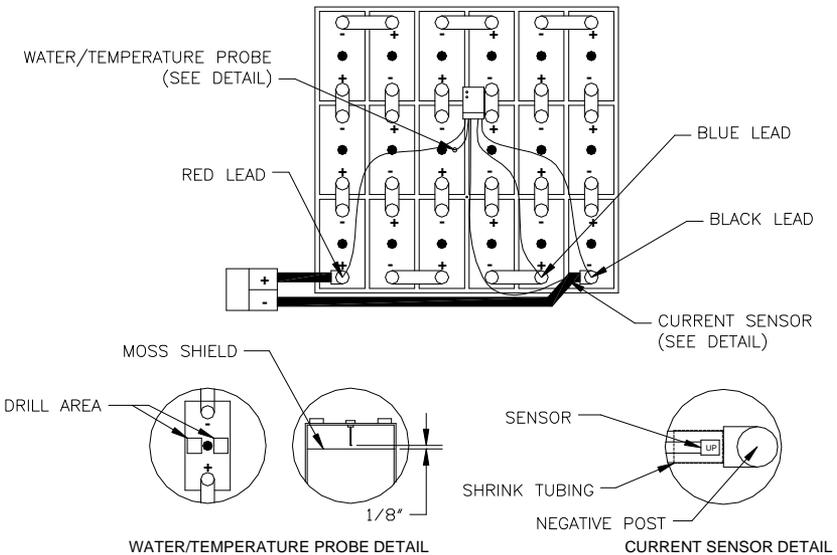

Figure 2 Installation Overview
4. Drill a 1/2" hole in the lid of one of the cells near the center of the battery (refer to figure 2). **Ensure the area under the cell lid is clear to the moss shield before drilling.** Trim the probe using wire cutters so that the tip will be approximately 1/8" above the moss shield after installing the probe. Press the probe grommet into the hole.